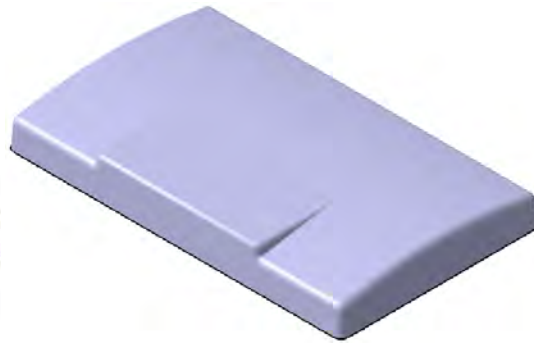

Figure 5-99 Resulting filleted model.
9. Choose the **OK** button from the **Edge Fillet Definition** dialog box. The resulting filleted model is shown in Figure 5-99.